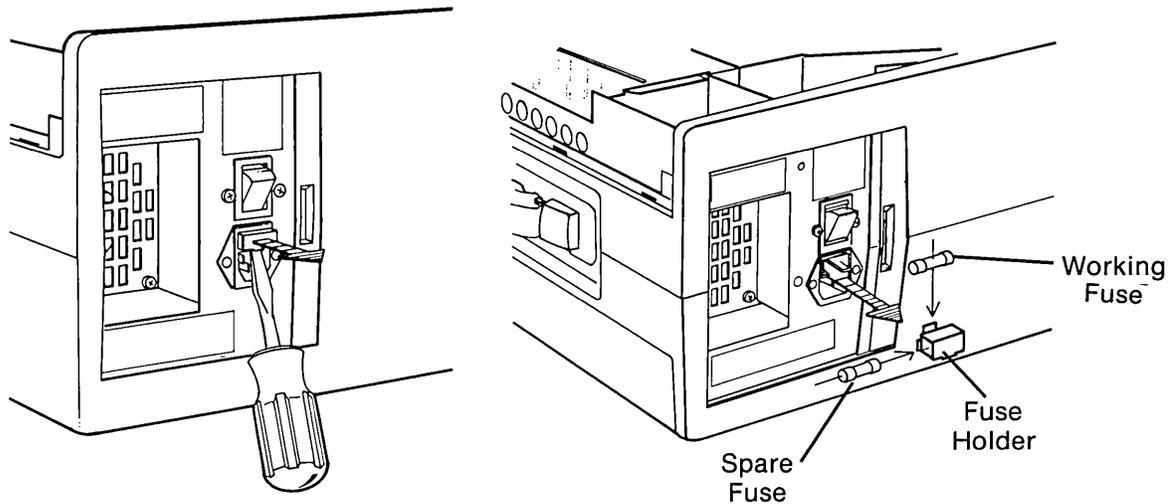

Figure 4-25. Removing the Fuse.
- 3 Once the fuse box is out, you will see a spare fuse provided in a holding area in the fuse box (see Figure 4-25). Lift out the faulty fuse, and replace it with the spare one.